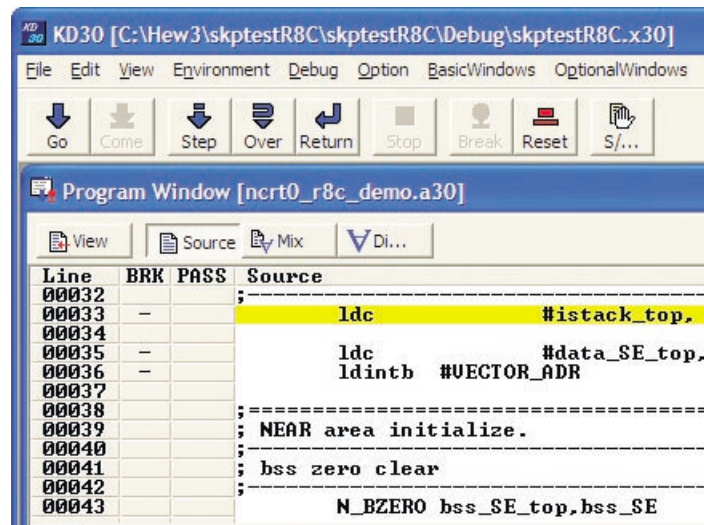

Figure 5. KD30 Program Window after download of skptestr8C
- d) After initialization, the KD30 Program Window will appear, and our program, “skptestr8c.x30” is automatically downloaded. The KD30 Program Window should look like Figure 5.